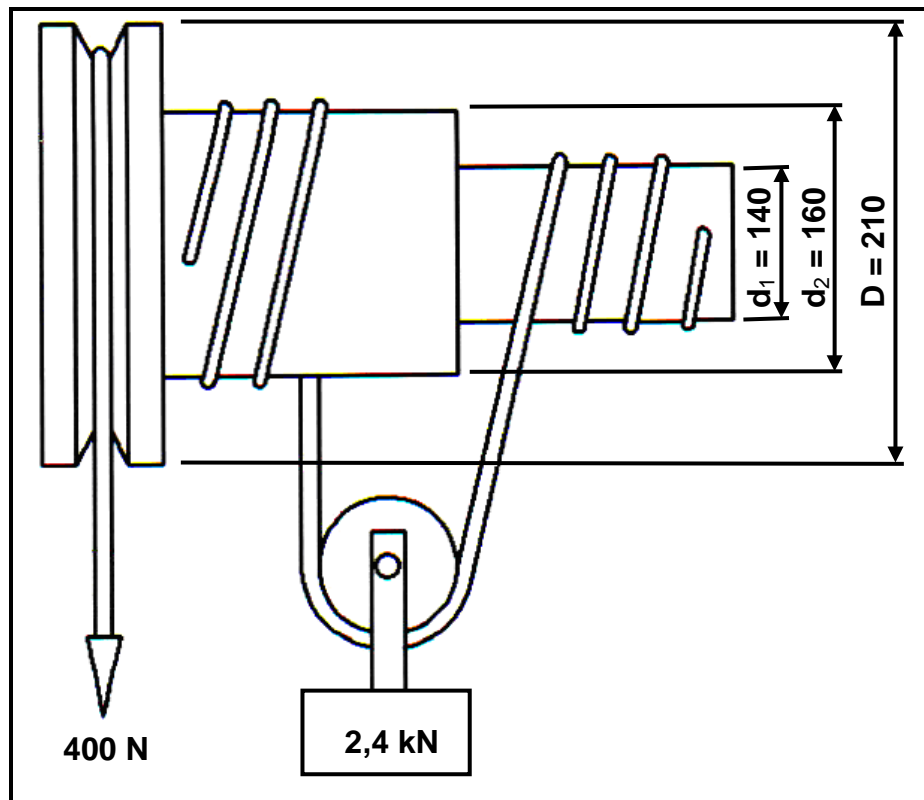

FIGURE 6.4
- 6.5 A differential wheel-and-axle lifting machine is shown in FIGURE 6.4 below. A load of 2,4 kN is lifted when an effort of 400 N is applied. The diameters of the pulleys are 210 mm, 160 mm and 140 mm respectively.